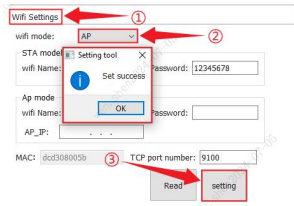

Fig.4
3. Once the AP IP address has been set, click on the "Read" button to obtain the AP IP address (shown in Figs.4 and 5).